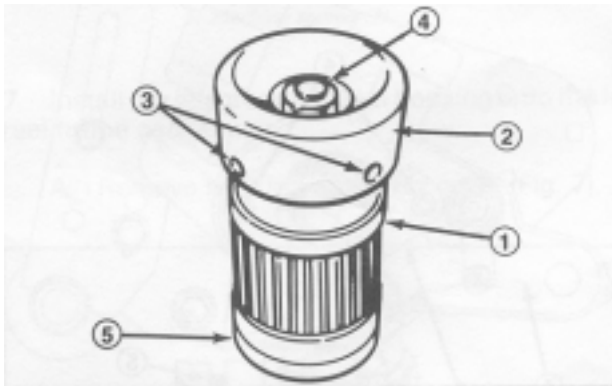

Figure 13
- A. Loosen two allen set screws and remove the clutch knob from the clutch shaft (Fig. 13). Next, remove the nut and washer from the clutch adapter shaft (Fig. 13).